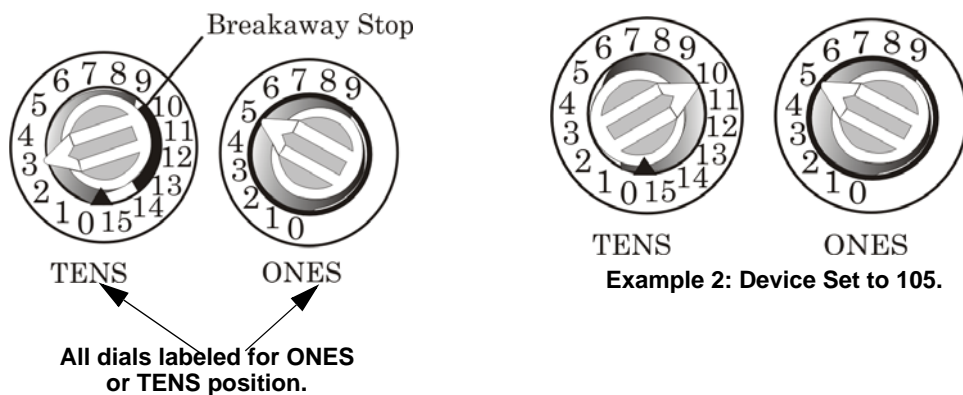

Figure 7-5 SK SLC Device Addressing Using Rotary Dials
**Example 1:** To select device address 35, turn the *ONES* rotary dial to **5** and the *TENS* rotary dial to **3** as shown in Figure 7-5.
**Example 2:** To select device address 105, turn the *ONES* rotary dial to **5** and the *TENS* rotary dial to **10** as show in Figure 7-5.